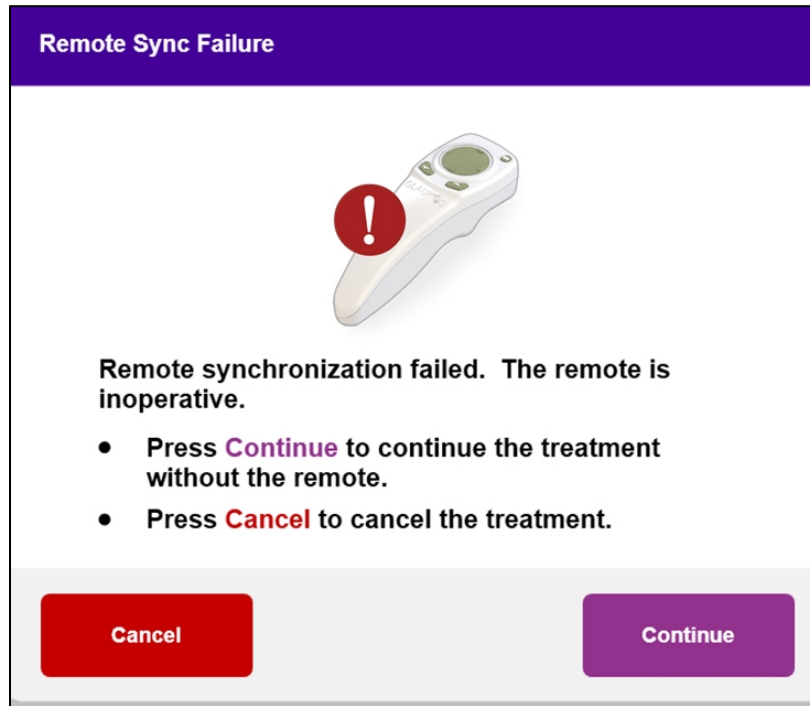

Figure 4-3. Remote Sync Failure Guidance
- If after two tries, the remote fails to re-sync, the following screen appears, see Figure 4-3. Select “Continue” to continue treatment without the remote or press “Cancel” to cancel treatment.